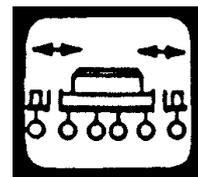

Fig.16
4.6 Key "Raise - Lower"(Fig.16)